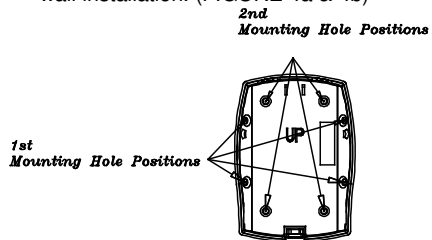

FIGURE 4a
**Note:** Using 1st mounting hole to fulfill corner mounting installation, while 2nd mounting hole for flat wall installation. (FIGURE 4a & 4b)